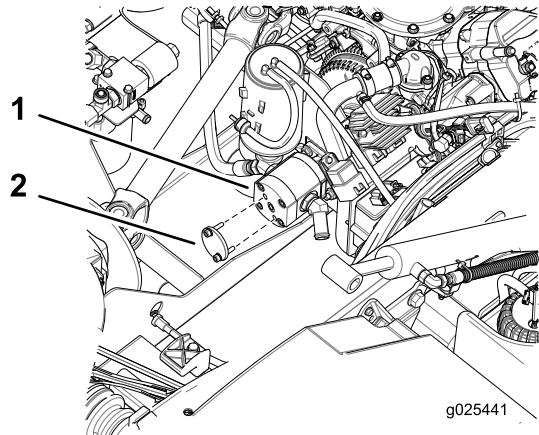

Figure 6
2. Remove the 2 bolts securing the end cap to the hydraulic pump (Figure 6). Remove the end cap.
1. Thoroughly clean the area around the hydraulic pump end cap to prevent contamination from entering the pump (Figure 6).